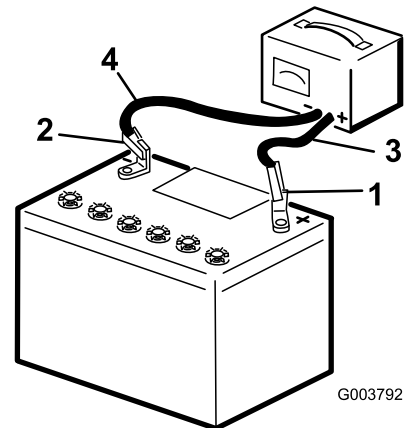

Figure 100
5. Connect the positive lead of the battery charger to the positive battery post (Figure 100).
6. Connect the negative lead of the battery charger to the negative-battery post (Figure 100).
- When the battery is fully charged, unplug the charger from the electrical source, then disconnect the charger leads from the battery posts (Figure 100).